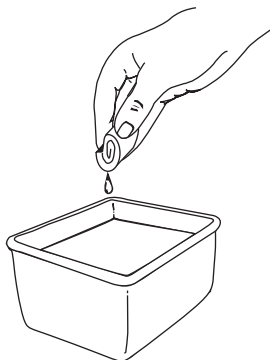

Figure 31
3. Wash the filter in detergent and water. See Figure 31. Rinse the filter thoroughly and allow it to dry.